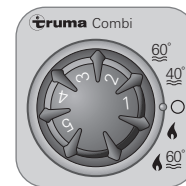

Fig. 11
Analogue control panel (part no. 36010-01 – Fig. 11) for Combi D6 (E) CP plus ready.